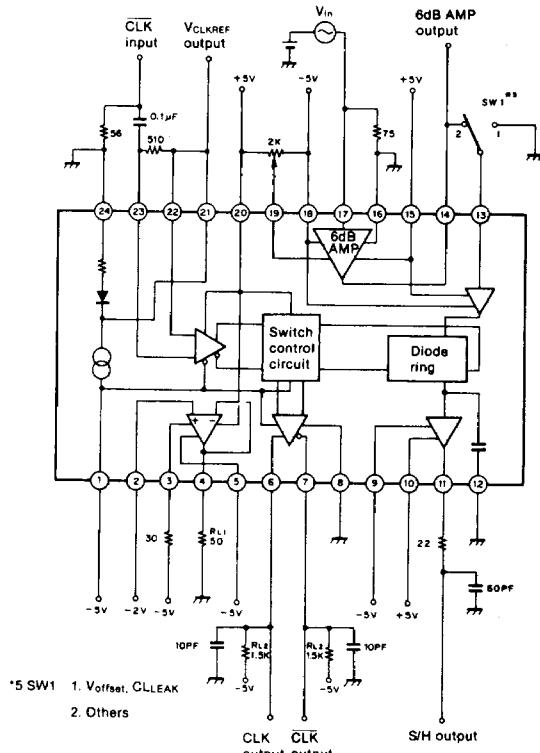

Fig. 3
S/H section (see Fig. 3)
$(R_{LI} = 50\Omega, \text{ see Fig. 3})$
6dB amp section (see Fig. 3)
*3 2ndary harmonic: -40dB f_{in} = 3.58MHz*4 f_{in} = 3.58MHz V_{in} = 1V_{pp}**CLK OUT section (see Fig. 3)**
-2V_{ref} amp section (see Fig. 3)